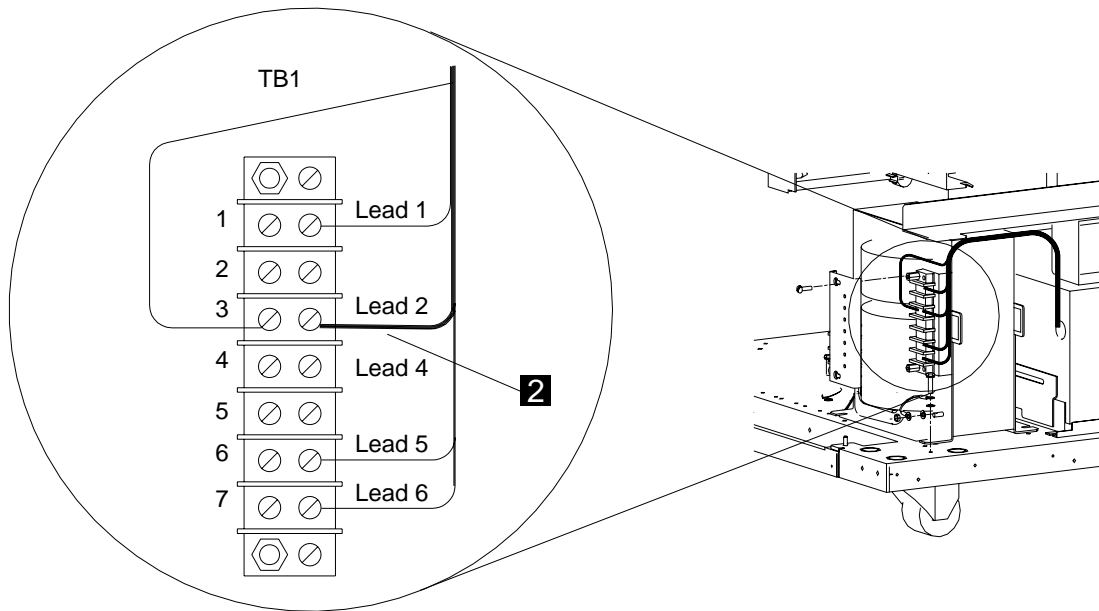

Figure 2-28. AC Power Transformer Connection
2. According to the voltage recorded previously in step 2 on page 2-25, move the cable lead **2** from 01Q-A1 TB1-2 to TB1-3 or to TB1-4 (see Figure 2-28).